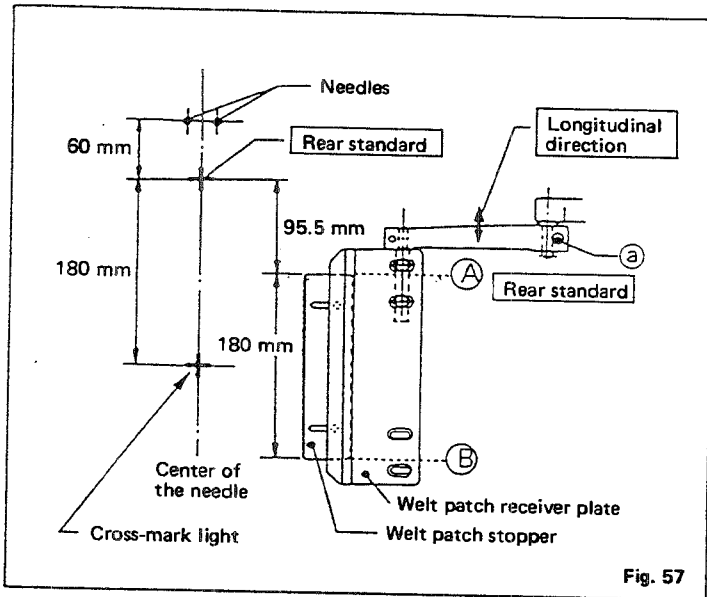

Fig. 57
1. Loosen bolt (a) and adjust the longitudinal direction of the welt patch receiver plate and welt patch base plate so that the relevant parts are positioned as illustrated in Fig. 57. Welt patch stopper end point (B) corresponds to the rear standard position of the binder when it comes down after having fed a welt patch. Therefore, welt patch stopper front end observed by an operator (B) corresponds the sewing end point when the sewing length is set to 180 mm. Set a work-piece using either end as a standard.